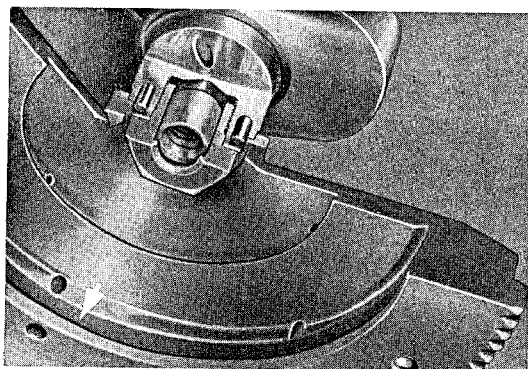

Fig. 214
9. Check flywheel for trueness. Max. permissible wobble 0.3 mm (.012 in.) measured at center of the clutch plate pressure surface. Max. permissible eccentricity 0.1 mm (.004 in.) measured on the surface indicated by the arrow in Fig. 214.